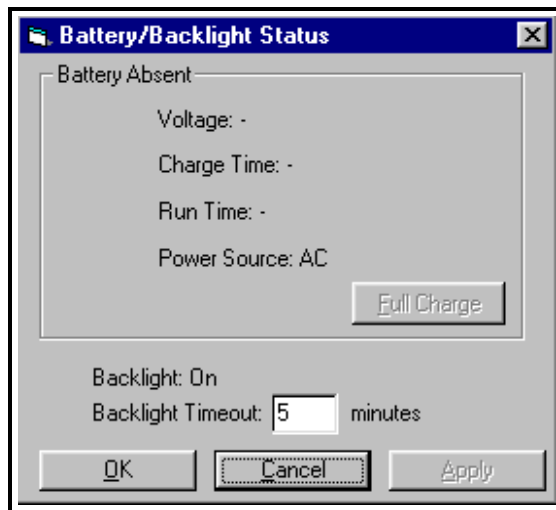

Figure 21: Battery/Backlight Status
2. From the network tree, double-click on “*Battery/Backlight*.” The “*Battery/Backlight Status*” window appears, as shown in Figure 21 below.